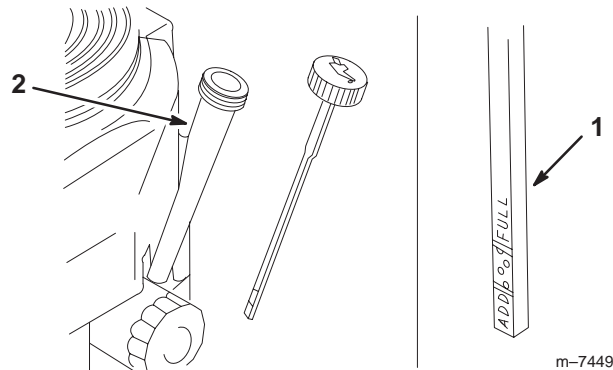

Figure 29
4. Clean around the oil dipstick (Fig. 29) so that dirt cannot fall into the filler hole and damage the engine.
5. Unscrew the oil dipstick and wipe the end clean (Fig. 29).
6. Slide the oil dipstick fully into the filler tube, **but do not thread onto tube** (Fig. 29).
9. Slowly pour approximately 80% of the specified oil (refer to Service Interval/Specification, page 28) into the filler cap (Fig. 29).